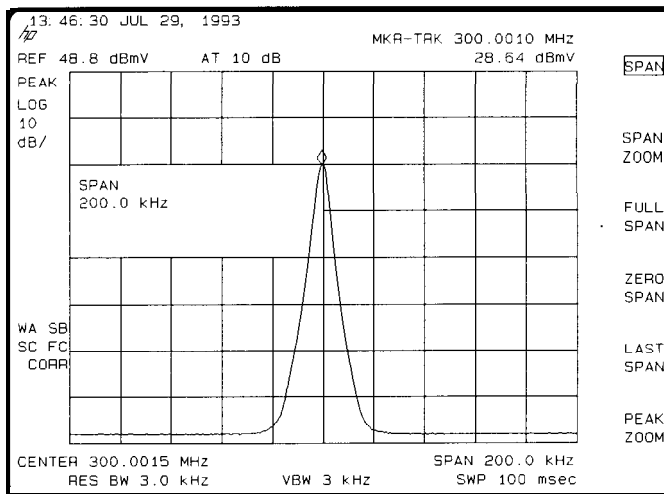

Figure 4-7. After Zooming In on the Signal
2. Press **MKR FCTN**, **MK TRACK ON OFF (ON)** and the signal will move to the center of the screen, if it is not already positioned there (note that the marker must be on the signal). Because the marker track function automatically maintains the signal at the center of the screen, you can reduce the span quickly for a closer look. If the signal drifts off of the screen as you decrease the span, use a wider frequency span.
3. Press **SPAN**, **200** (kHz). The span decreases in steps as automatic zoom is completed. See Figure 4-7. You can also use the knob or step keys to decrease the span or use the **PEAK ZOOM** function under **SPAN**.